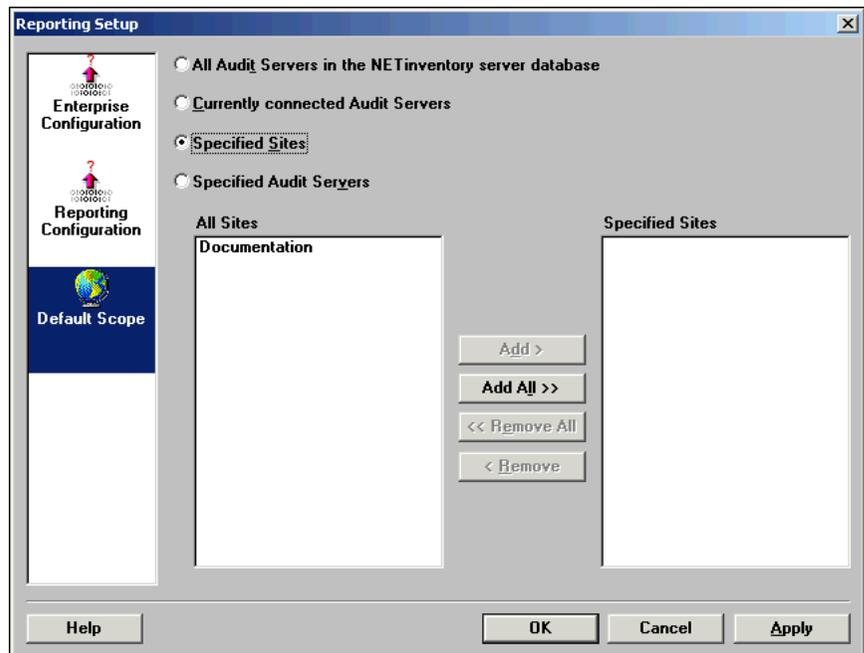
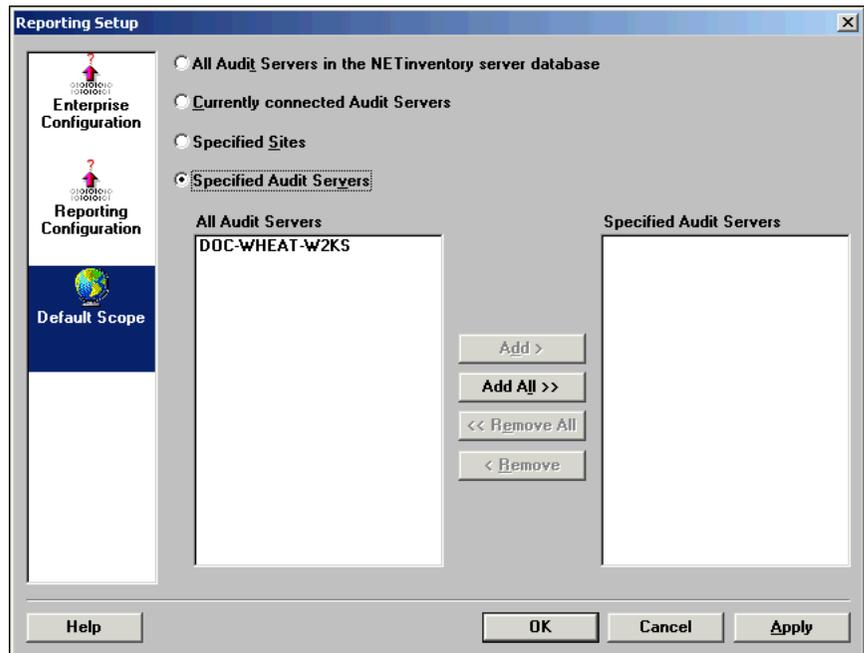

Fig. 29 Specified Sites Picker
Fig. 30 Specified Audit Servers Picker
- 3 If you choose **Specified Sites** or **Specified Audit Servers**, you need to specify which sites or audit servers should be included. Fig. 29 shows **Specified Sites** selected and Fig. 30 shows **Specified Audit Servers** selected.